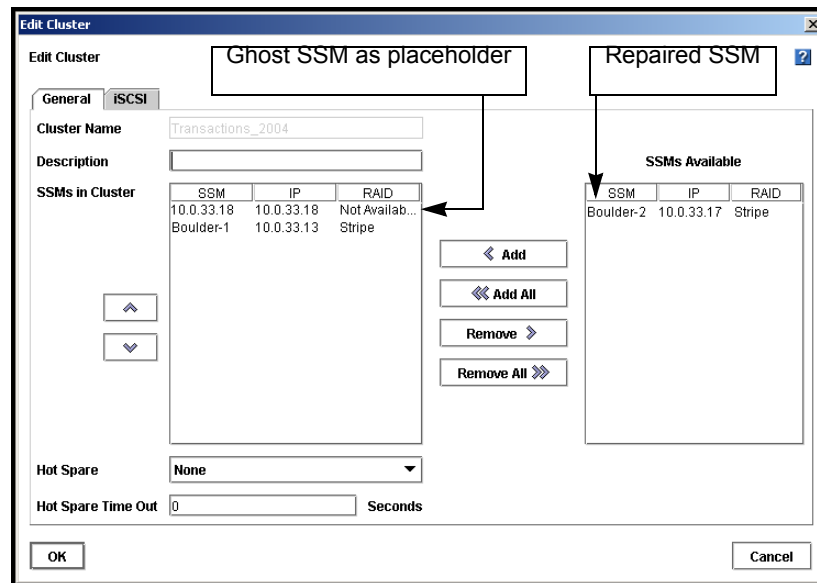

Figure 163. Returning the Repaired SSM to the Cluster
- In the Edit Cluster window, shown in Figure 163, remove any SSMs in the list that are **below** the ghost SSM. The removed SSMs return to the SSMs Available column.